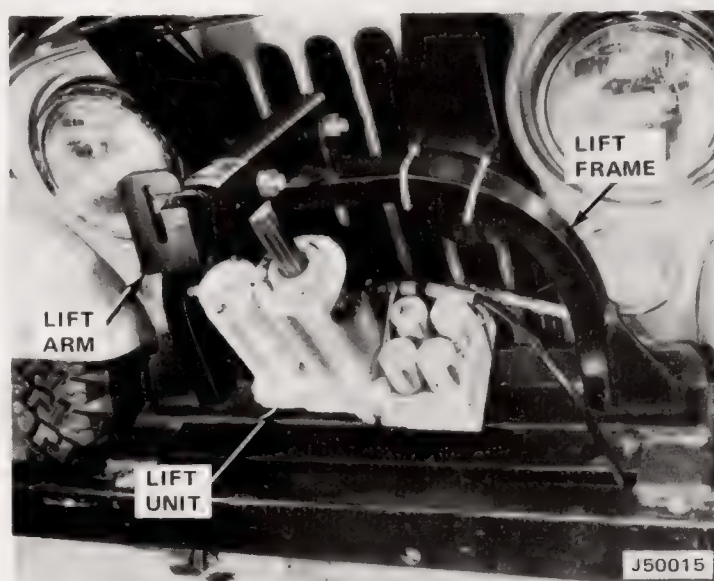

Fig. 1-19 Lift Unit—Lift Frame and Lift Arm Installation
- (1) Disconnect negative battery cable.
- (2) Attach lift unit to lift frame and lift arm using bolts and locknuts (fig. 1-19). Tighten bolts to 30 to 40 foot-pounds torque.